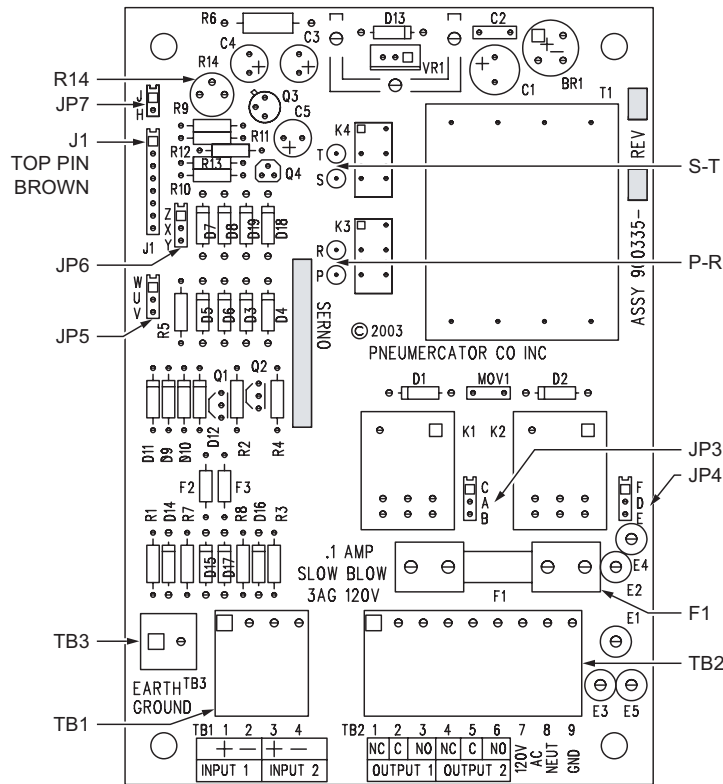

Figure 3 - PC Board Layout
Relay contacts for status indicators or other external control devices – pumps, valves, annunciators, etc. - are provided for each channel, rated for 3 amps at 120 VAC, SPDT.* They are "dry", un-powered, requiring connection to a power source to control external devices. Each alarm circuit board can be set to operate on normally open or normally closed field sensors. This is accomplished by placing the "jumper-plugs" across the selected pins according to the schedule on the PC board layout, Figure 3. The standard factory set-up is for each relay to "energize" when its respective field sensor switches from "Normally Open" to Closed upon an alarm condition. It is important to know what operating sequence is needed before wiring the output relay contacts to external devices. The dry contact arrangement is shown on the PC board layout and the wiring diagrams.
-Automatic Silence (Optional) - A potentiometer on the PC board (see Figure 3 - PC Board layout) allows selecting a time delay interval after which the horn will silence automatically, without pressing the "reset" button. This is an optional feature, designated by the Model Number Suffix "-ASC." The time delay period ranges from a minimum of about 30 seconds to a maximum of about 3 minutes.
* If DPDT relay contacts are required for a particular application, this can be accomplished if a spare channel is supplied on the alarm console. After wiring the field sensor to Input Terminals 1 and 2, simply install 2 short jumper wires at the sensor input terminal block: one (1) between Terminals 1 and 3, the other between Terminals 2 and 4. This will cause both output relays to be controlled by just one field sensor.